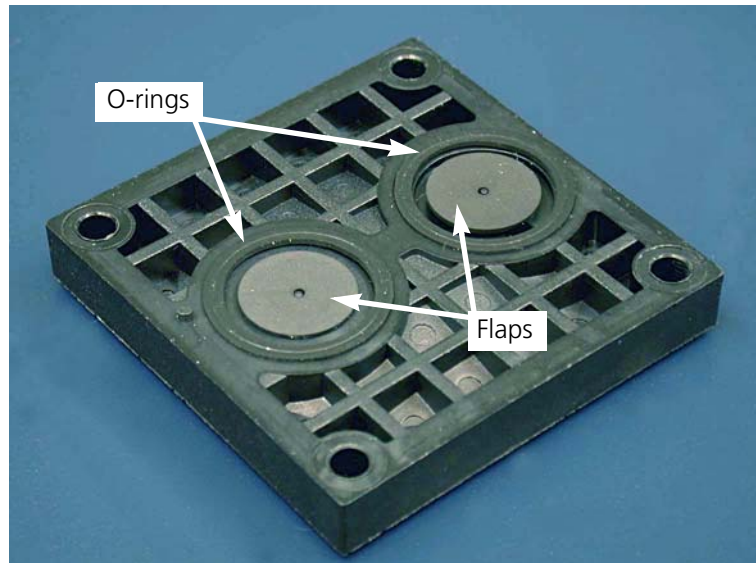

Figure 11-177. The new flaps and O-rings positioned on the valve block
5. Remove the old flaps and O-rings, and carefully position the new flaps and O-rings on the valve block. (Figure 11-177.)